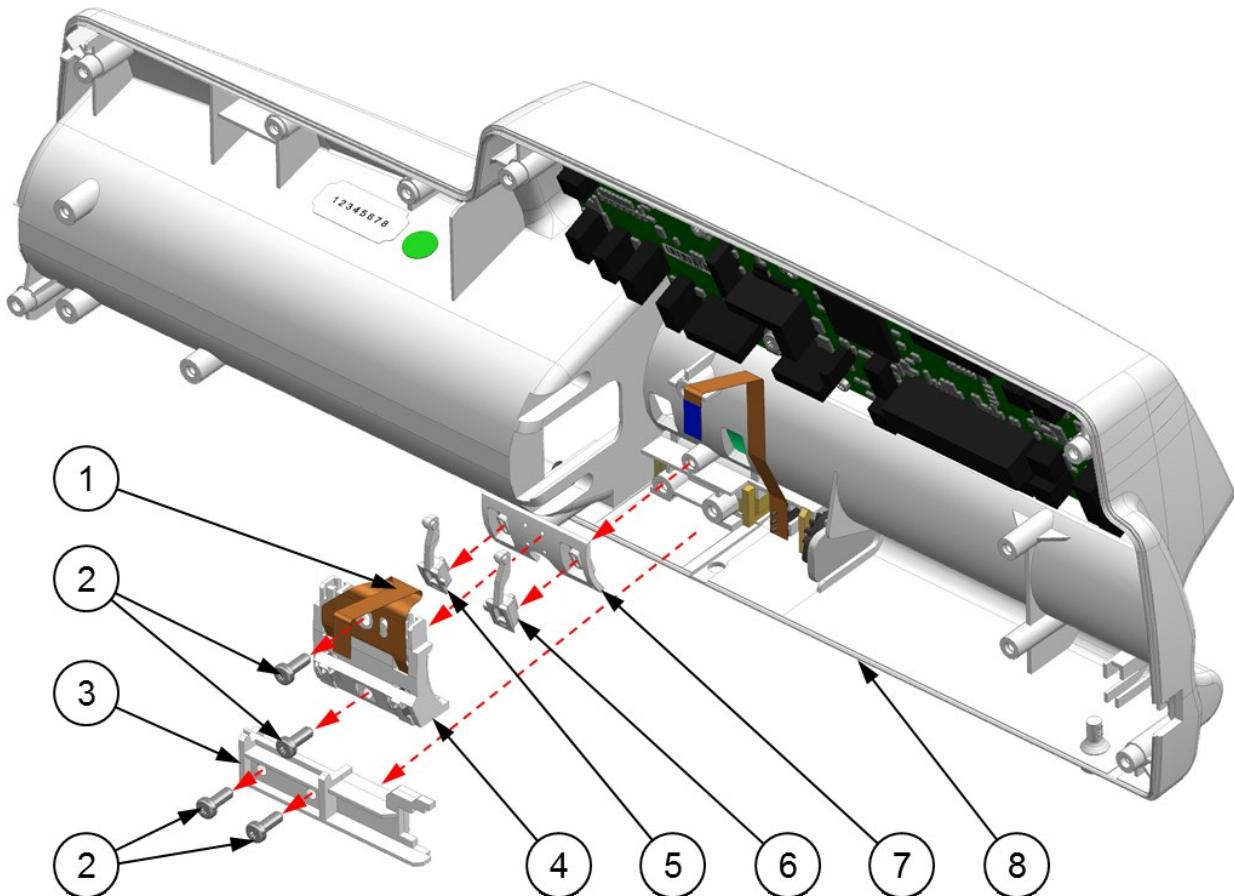

Fig. 66 Microswitches Foil removal/installation
2. Using the **TB-1** screwdriver unscrew four **3x8 screws for plastic (2)**.
3. Using the flat-nosed pliers **TB-5** remove the **Axle bearings clamp (3)** as shown in **Fig. 66**.
4. Remove the following parts: the **Microswitches case (4)** with the **Right microswitch button (5)**, **Left microswitch button (6)** and the **Buttons seal (7)**.
3. The set assembled in the above point insert into the **Front case (8)** and using the screwdriver **TA-41** with the bit **TA-42** screw it with two **3x8 screws for plastic (2)** (**Fig. 66**).
4. Insert the **Axle bearings clamp (3)** screwing it with two **3x8 screws for plastic (2)** into the **Front case (8)** using the screwdriver **TA-41** with the bit **TA-42** (**Fig. 66**).